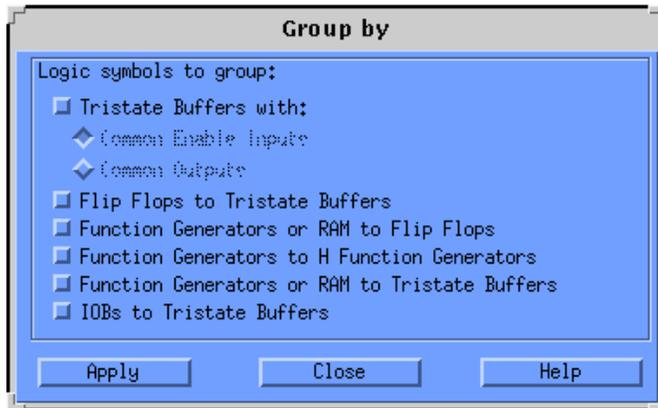

Figure 4-26 Group By Dialog Box for XC4000 Devices
- Align TBUFs with common output enable (OE) signals in a column.
- Use the Group by command to create groups of related logic for quicker placement into the floorplan. Figure 4-26 shows the Group by dialog box for the XC4000 family.